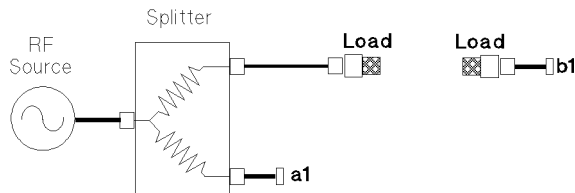

Figure 5-6. Calibration Setup for Isolation Cal
Isolation calibration requires the use of one or two loads. Refer to Figure 5-6. If you are calibrating for reflection measurements, place a single load as shown. If you are calibrating for transmission measurements, place two loads as shown in Figure 5-6
9. At the test port (see Figure 5-6):